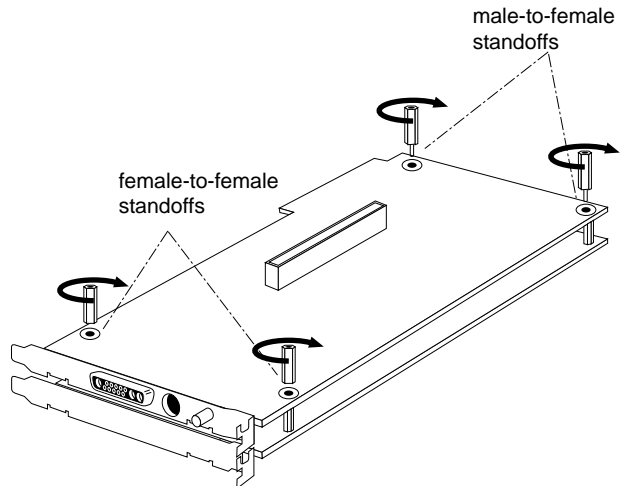

Figure 3-4 Inserting standoffs on XZ graphics
2. Where hex nuts were removed from the corners of the topmost graphics board, fasten two female-to-female standoffs. See Figure 3-4.
4. Where screws were removed from the corners of the topmost graphics board, insert two male-to-female standoffs. See Figure 3-4.